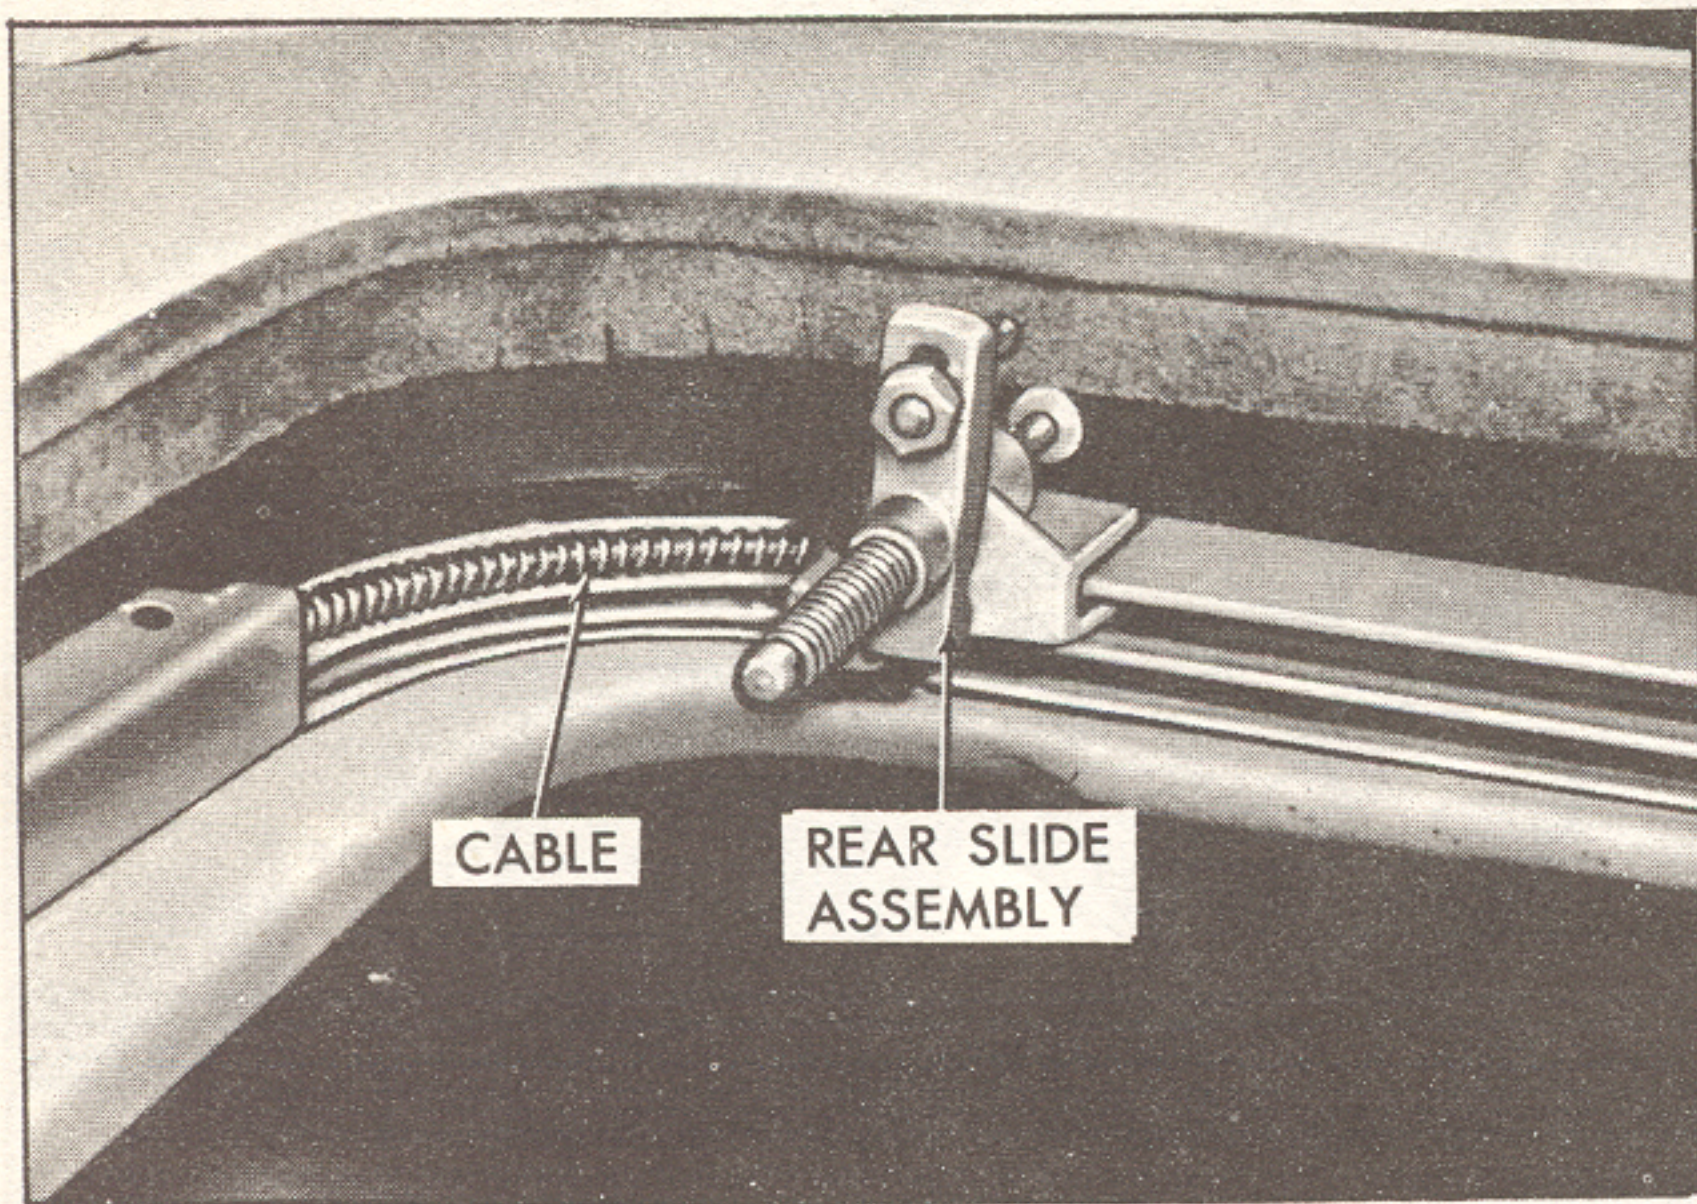

Fig. 20. Cable and Slide Assembly Pulled Forward
4. Pull free end of one cable out of guide rail and drive housing, and pull cable and rear slide assembly forward to front corner, Fig. 20.